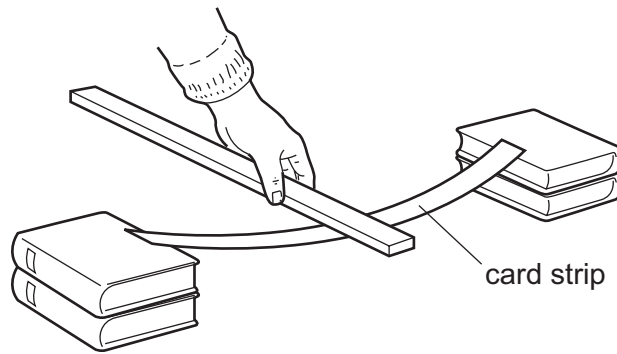

Fig. 8
- 13 Fig. 8 shows an experiment to investigate the use of sheet materials to span a gap and carry a load.